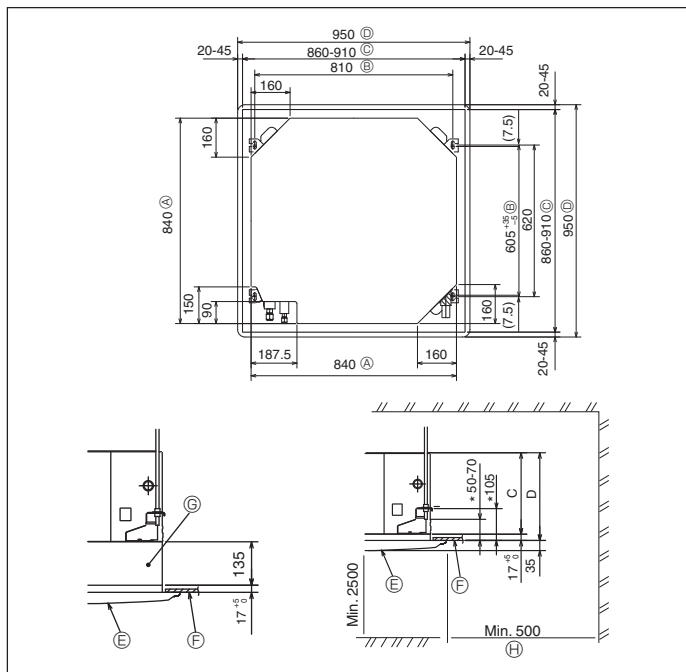

Fig. 3-2
④ Band	8
⑤ Screw with washer (M5 × 25) for mounting grille	4
⑥ Drain socket	1
⑦ Insulation	1
⑧ Flare nut 1/4F(P60)	1
3.2. Ceiling openings and suspension bolt installation locations (Fig. 3-2)
- The dimensions of ceiling opening can be regulated within the range shown in Fig.3-2; so center the main unit against the opening of ceiling, ensuring that the respective opposite sides on all sides of the clearance between them becomes identical.
- (A) Outer side of main unit (E) Grille
- (B) Bolt pitch (F) Ceiling
- (C) Ceiling opening (G) Multi function casement (option)
- (D) Outer side of Grille (H) Entire periphery